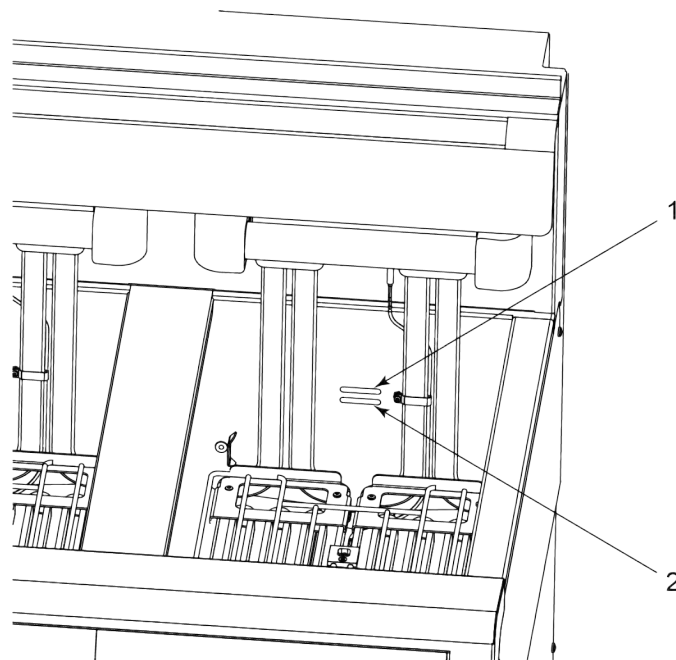

Figure 4-2 Level Indicator Lines
Each F5 vat has two level indicator lines as referenced in Figure 4-2 Level Indicator Lines, page 17. The upper fill line (1) indicates proper oil level at set-point temperature. The lower fill line (2) indicates proper oil level at room temperature. When filling an empty vat with room temperature oil, fill to the center of the lower fill line (2). As oil heats, it expands to the upper fill line (1).